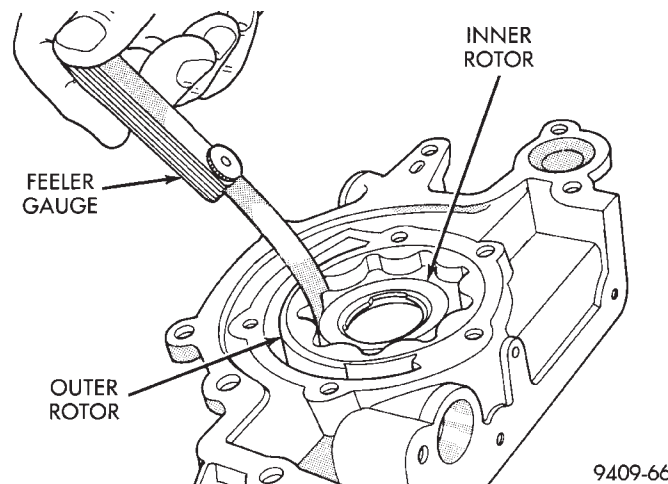

Fig. 99 Measuring Clearance Between Rotors
(6) Install inner rotor into pump housing. If clearance between inner and outer rotors (Fig. 99) is .203 mm (.008 inch) or more, replace both rotors.